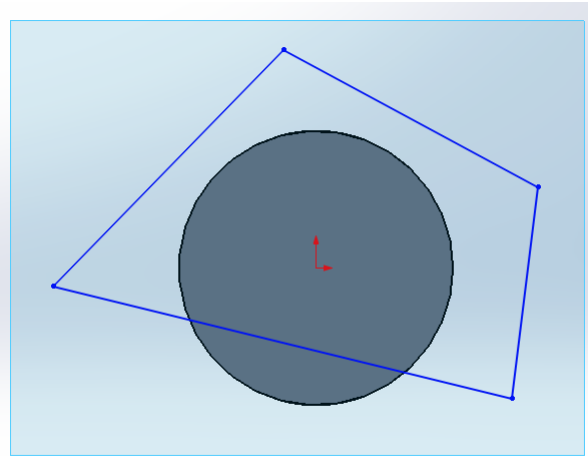

Fig44
- Dragging a rectangular window around the tetragon from left to *Right* selects every entity which are completely inside the window (Fig44);